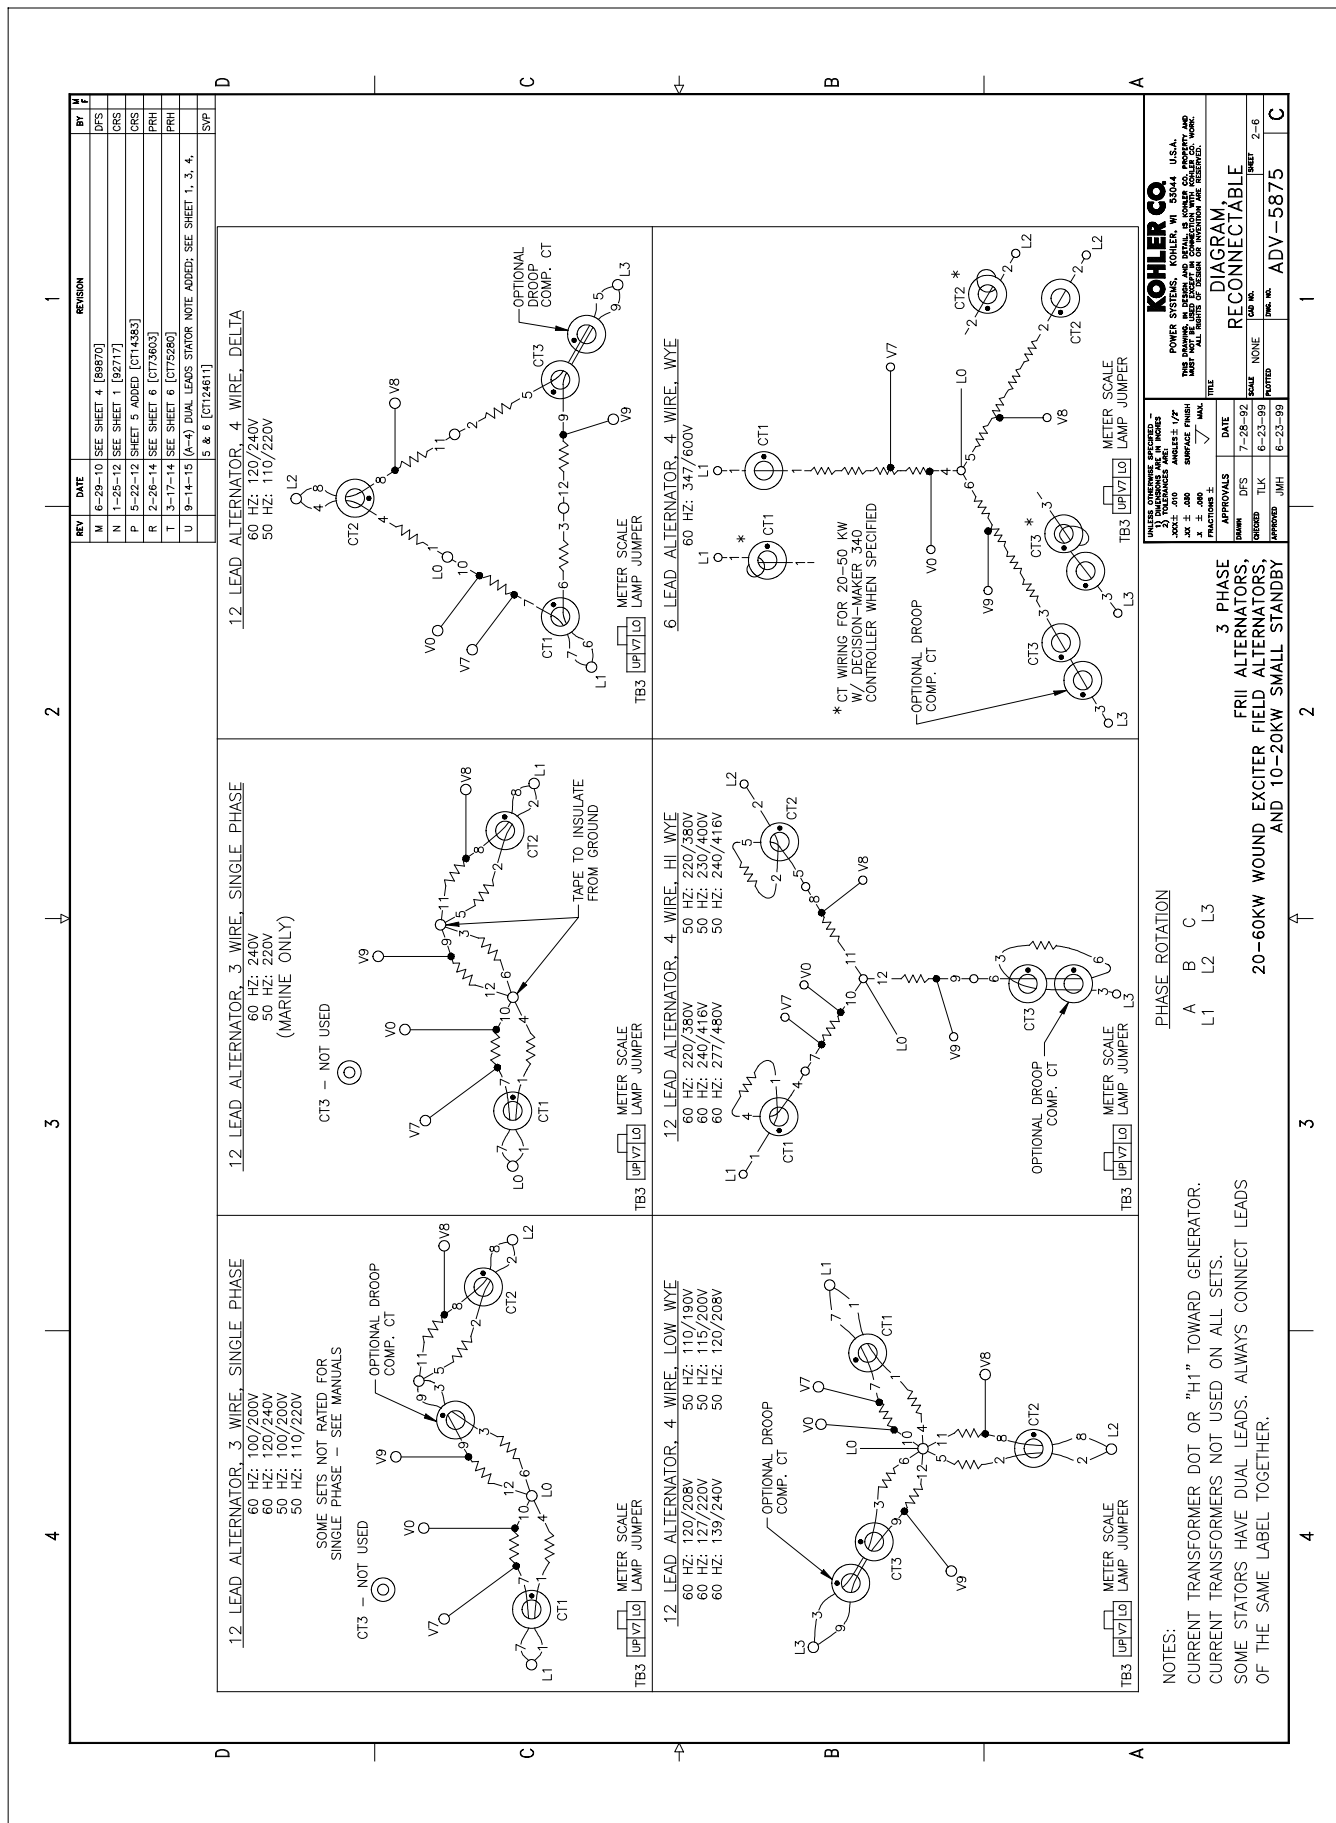

Figure 5-3 20- 300 kW Permanent Magnet Alternators, ADV-5875U-2
8. Use Figure 5-2, Figure 5-3, or Figure 5-5 to determine the generator set voltage configuration. Note the original voltage and reconnect as needed. Route leads through current transformers (CTs) and connect them according to the diagram for the desired phase and voltage.
3. Use Figure 5-2, Figure 5-3, Figure 5-4, or Figure 5-5 to determine the generator set voltage configuration. Note the original voltage and reconnect as needed. Route leads through current transformers (CTs) and connect them according to the diagram for the desired phase and voltage.